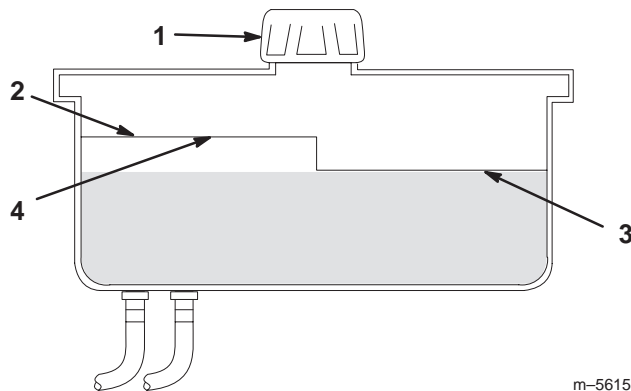

Figure 54
2. Clean area around filler neck of hydraulic tank (Fig. 54).
3. Remove the cap from the filler neck. Look inside to check if there is fluid in the reservoir (Fig. 54).
Note: The fluid level should be to the top of the **hot** level of the baffle, when the fluid is hot (Fig. 54).